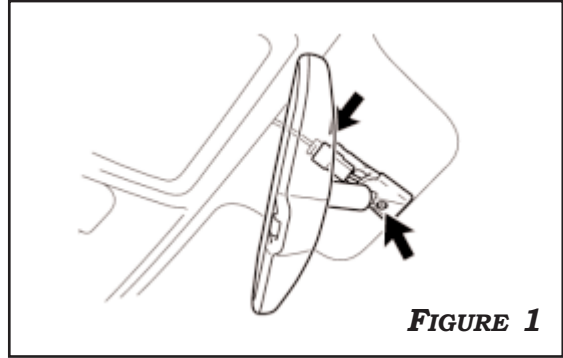

FIGURE 1
1. LOOSEN **Torx-20** WINDSHIELD LUG MOUNT SCREW AND REMOVE EXISTING REARVIEW MIRROR. **FIGURE 1**